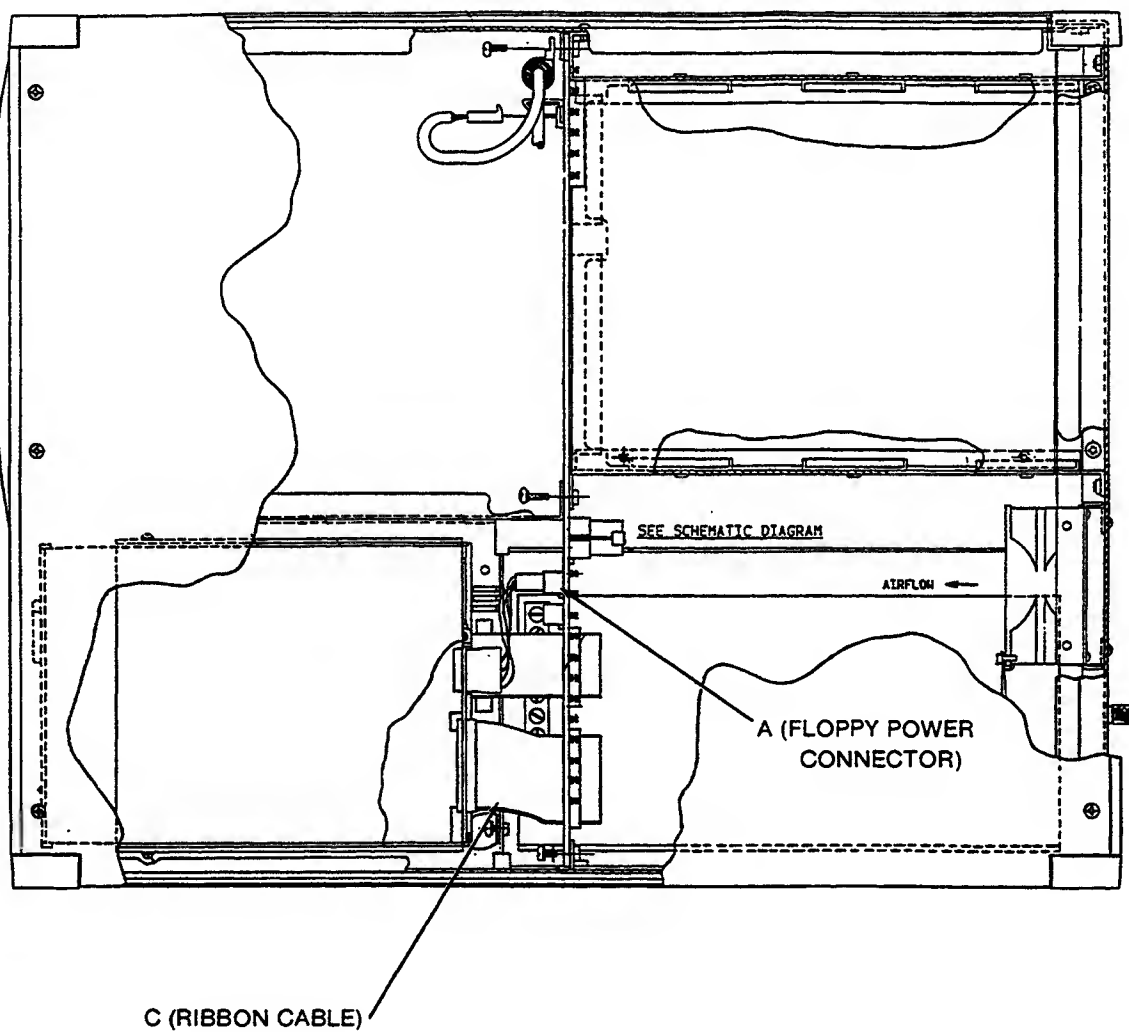

Figure 3-15. Top View of 1722A/1752A (New Chassis)
3-75. Disk Drive Access (New Chassis, Figure 3-15)
2. Refer to Figure 3-15.
3. Unplug the disk drive power connector (A) at the motherboard.